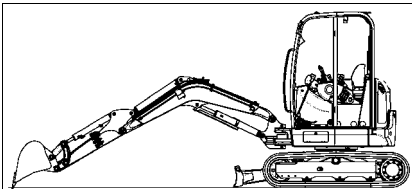

Fig. 50: Positioning the excavator
- ➔ Position the work equipment as shown (see Fig. 50)